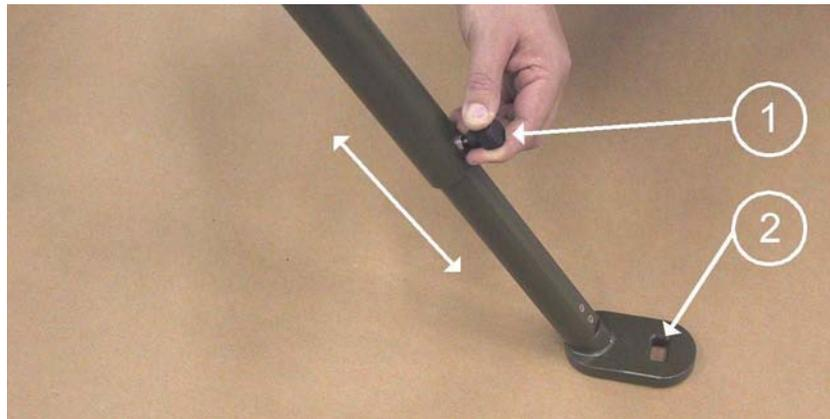

Figure 45 Adjusting Legs
11. To adjust the length of the legs, loosen the hand screw (number 1 in Figure 45 on page 54) at the lower end of the leg. Extend the leg and lock by tightening the hand screw. If you do not extend the legs all the way, extend the legs so that the temperature/relative humidity sensor is approximately 1.5 m (5 feet) off the ground. After you have aligned the station, insert a peg through the hole (2) to the ground to secure the leg. Use the hammer to pound in the ground pegs. If the ground is too hard for the pegs, fill the ground peg bag with sand and/or stones. Attach the bag to the horizontal support bar with the straps.